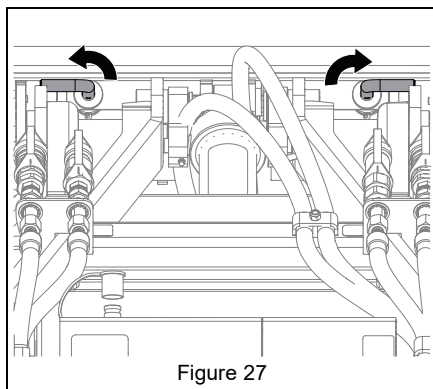

Figure 27
4. Rotate lock pins to unlocked (handles pointing outwards) position. See Figure 27.